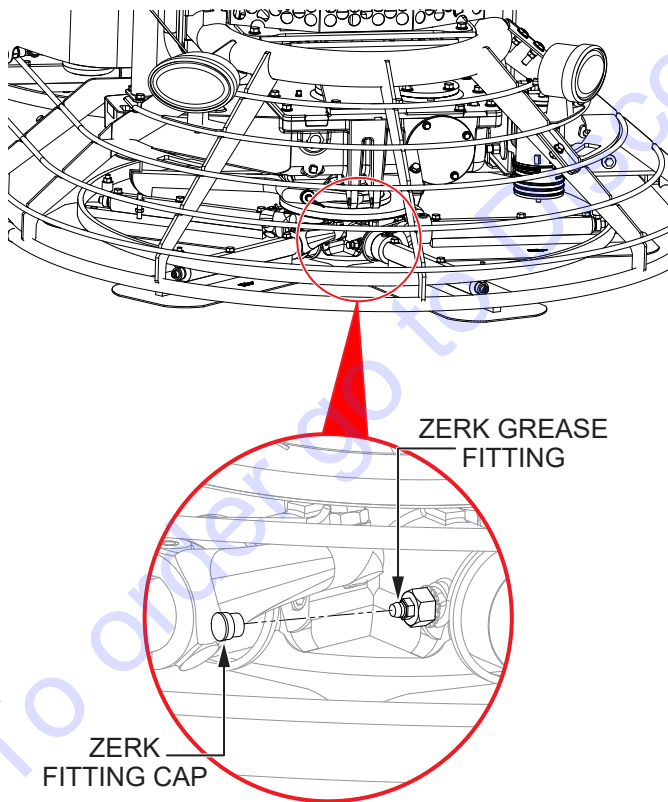

Figure 35. Spider Lubrication
1. Locate one of the Zerk grease fittings on either spider assembly (Figure 35). Remove the Zerk fitting cap and set it aside.